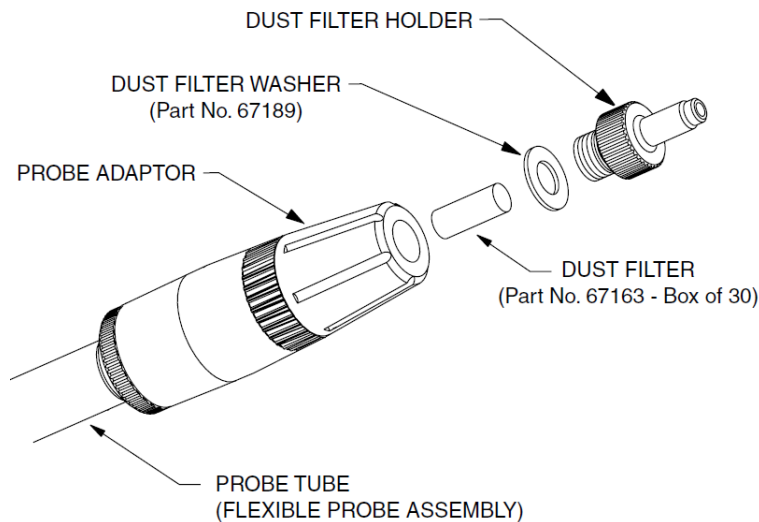

Figure 65: Dust Filter Holder / Filter Removal
1. Unscrew the dust filter holder and detach it from the probe adaptor, as illustrated in Figure 65: Dust Filter Holder / Filter Removal.